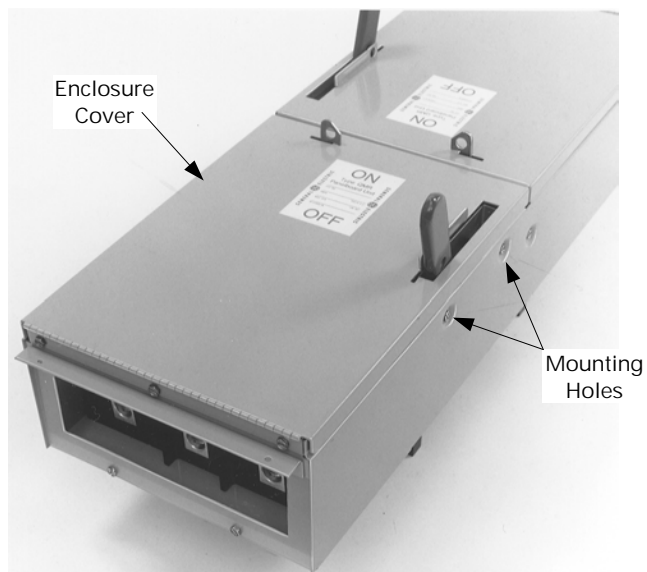

Figure 8. Installing the cover on the enclosure.
6. **Install the cover.** Install #10-32 x 1/4" screws into the mechanism shroud mounting holes, as shown in Figure 8. Position the new enclosure cover in place on the enclosure and secure with #10-32 x 1/4" screws. Tighten all screws to 27–32 in-lb. Reinstall the switch into the panelboard and secure the rail latch locking screws.